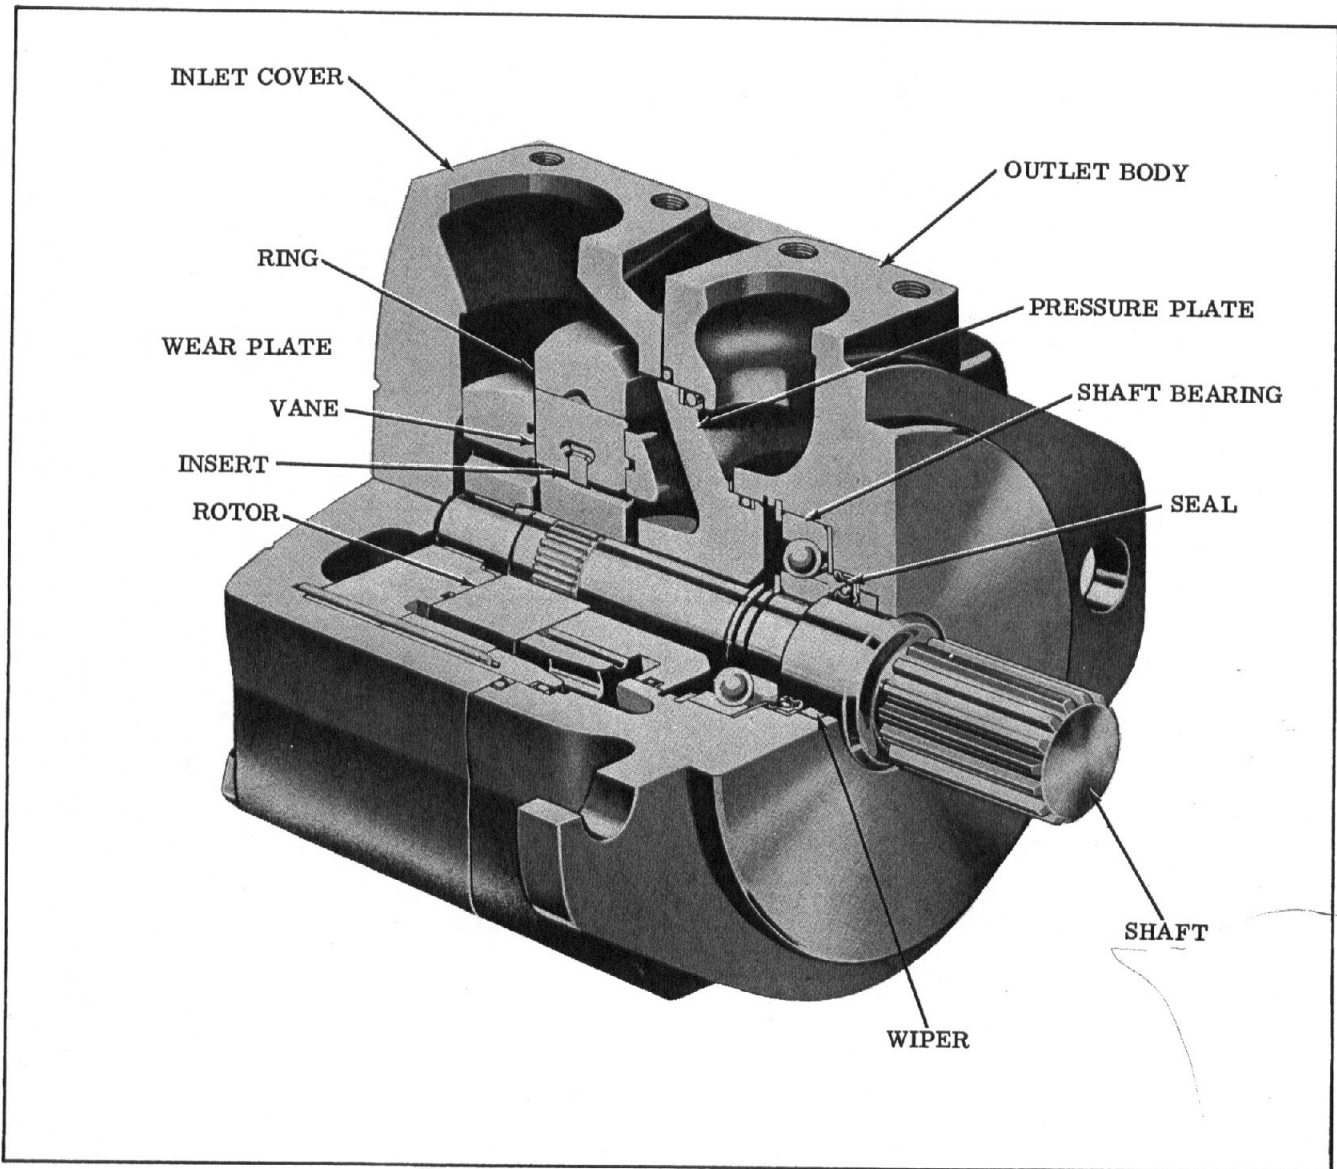

Figure 1 - Cutaway View of Typical High Performance Single Pump.
1. Basic Pumps - The pump illustrated in Figure 1 is representative of all single pumps in these